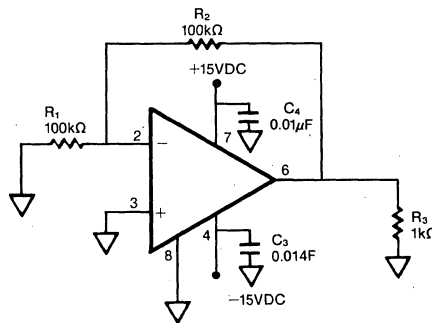

FIGURE 3. Test Circuit, Burn-In and Operating Life Test.
- (1) Test condition B.
- (2) Test circuit is Figure 3.
- (3) $T_A = +125^\circ\text{C}$ minimum.
- (4) Test duration is 160 hours minimum.
- (4) Test duration is 1000 hours minimum.